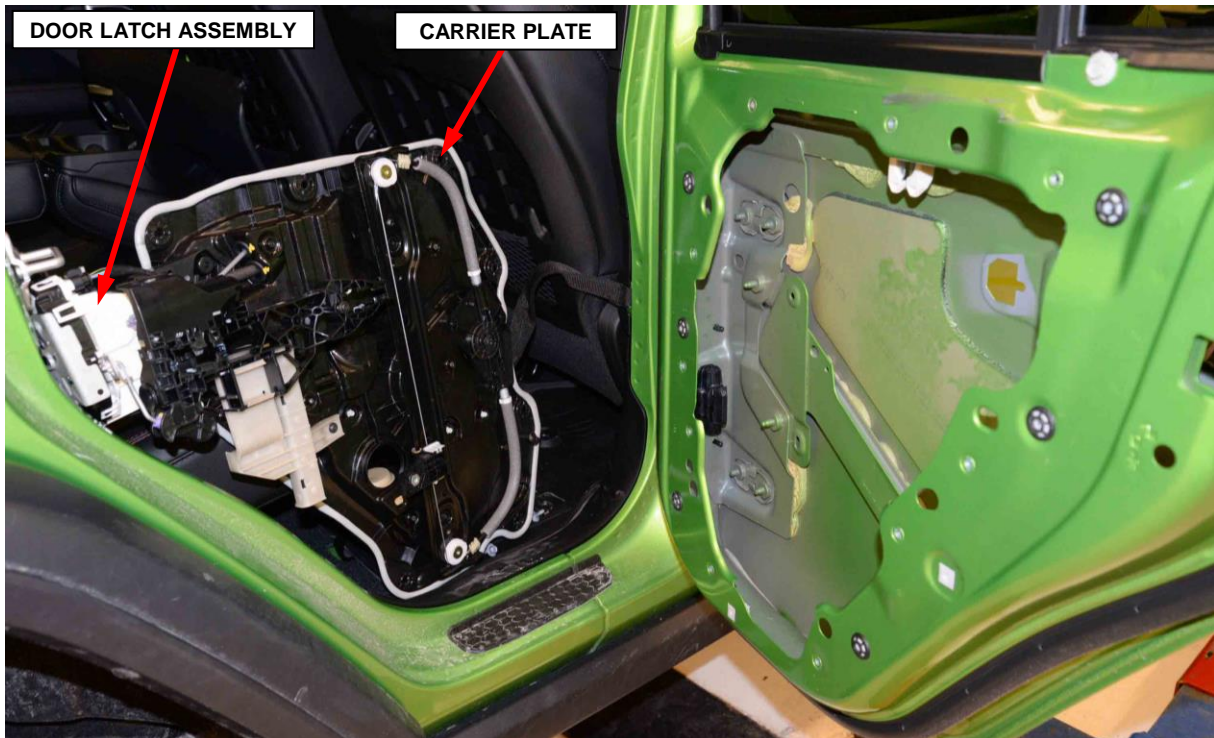

Figure 17 – Carrier Plate with Latch Assembly
31. Protect the seats with a cover then position the carrier plate with latch assembly in the vehicle (Figure 17).
57. Position the carrier plate with latch assembly back into the door cavity (Figure 17).